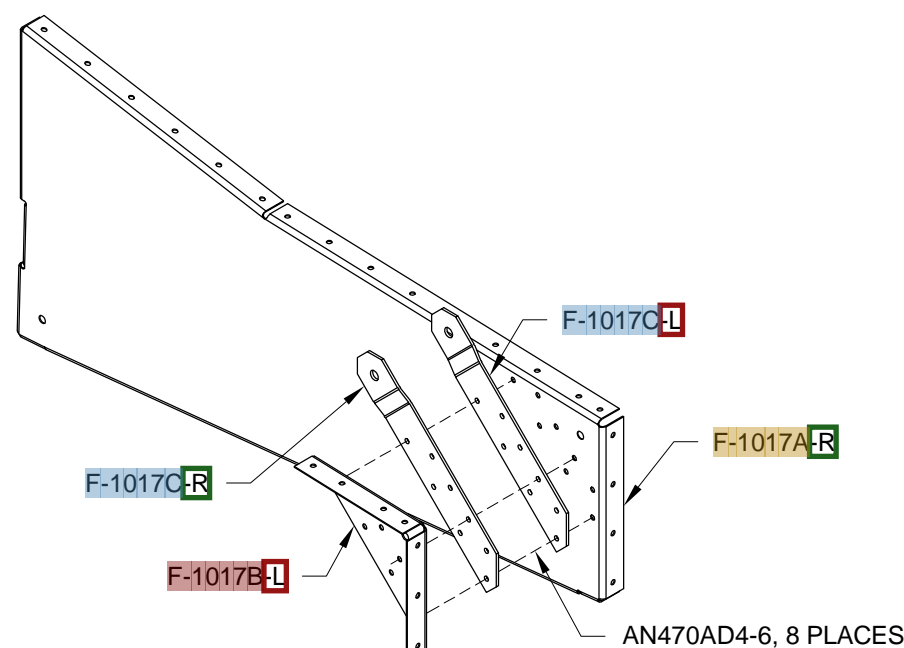

FIGURE 1: REAR SEAT RIB SUBASSEMBLY
Step 4: Cleco then final-drill #30 the **F-1017B-L** Seat Belt Attach Rib and **F-1017C-L** and **R** Seat Belt Attach Lugs to the **F-1017A-R** Rear Seat Rib as shown in Figure 1. This will form a Left Rear Seat Rib Subassembly. Repeat this step to form another Left Rear Seat Rib Subassembly and two Right Rear Seat Rib Subassemblies. The right assembly is a mirror of the left.